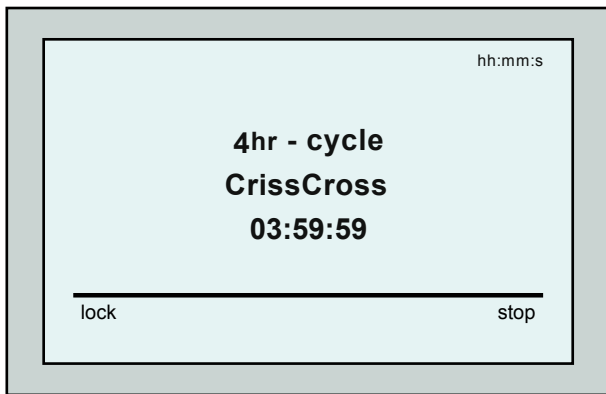

Figure 4: Countdown screen for 4 hour session
To avoid unauthorized changes to the MMI settings you can lock the MMI's keyboard: From the *Countdown* screen, press **Lock** (Figure 4).
- From the *Countdown* screen (Figure 4), press **Stop**. The MMI screen displays the message: "Stopping robot – please wait". After 5 seconds the *Manual Stop* screen is displayed (Figure 5).